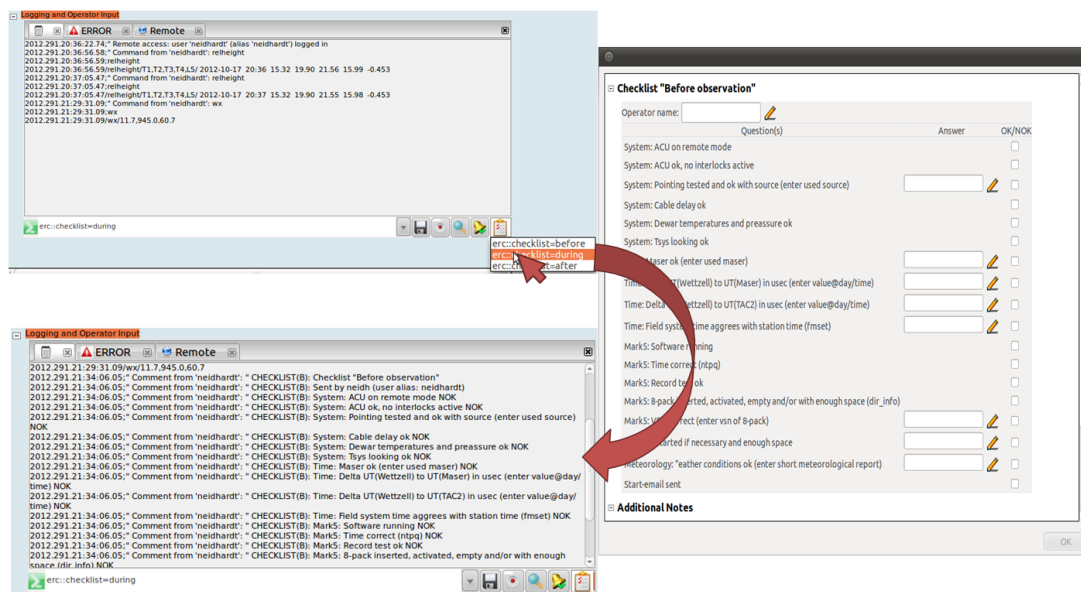

Figure 1.35: The checklist command.
- "*erc::checklist=before*", "*erc::checklist=during*" or "*erc::checklist=after*": These commands allow to open checklists, which are defined in the configuration file of the server (see section 1.4.2 on page 12). The checklists are defined to check activities before, during and after the observation. The checklists are usually opened automatically, according to dedicated patterns in the log file or after defined time intervals. But with the command they can be activated on demand by the operator. Alternatively, the checklist button can be used, which opens a drop-down list with the commands, where one can be selected with the mouse (see fig. 1.35).